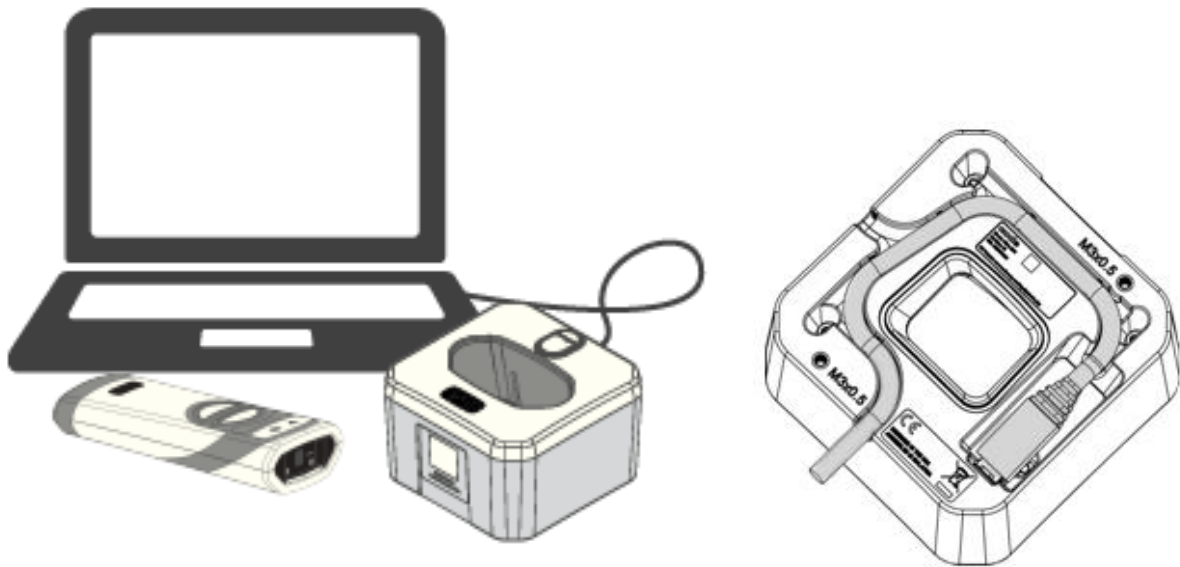

Figure 7 Connect Charging Station
- 5.7.1. Insert the micro USB connector of the cable to the micro USB port on the bottom of the charging station (Figure 7)